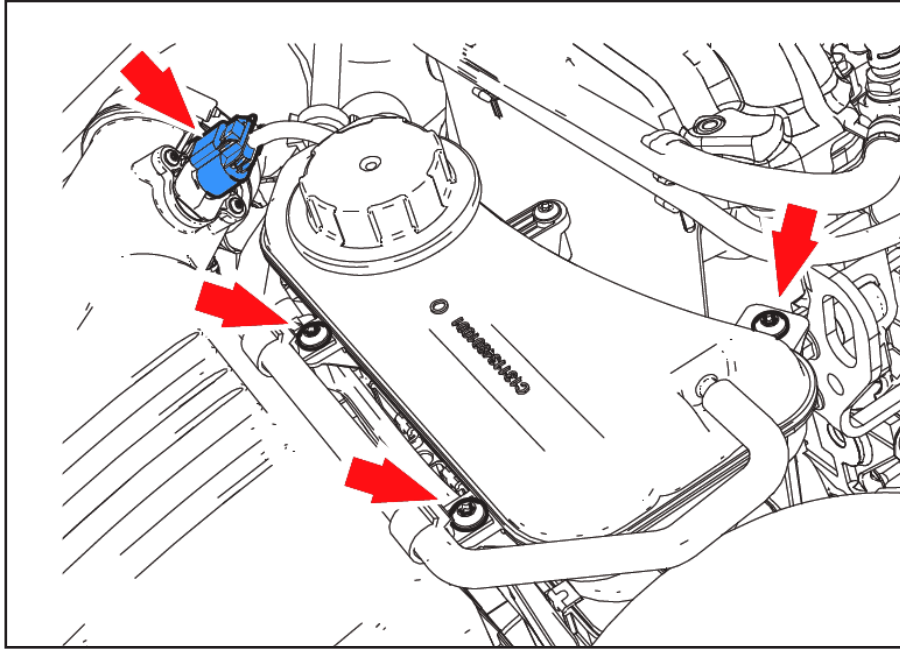

fig.4
3. With the hood open- remove the engine cover and proceed to Disconnect MAF sensor harness connector (blue in fig.4)